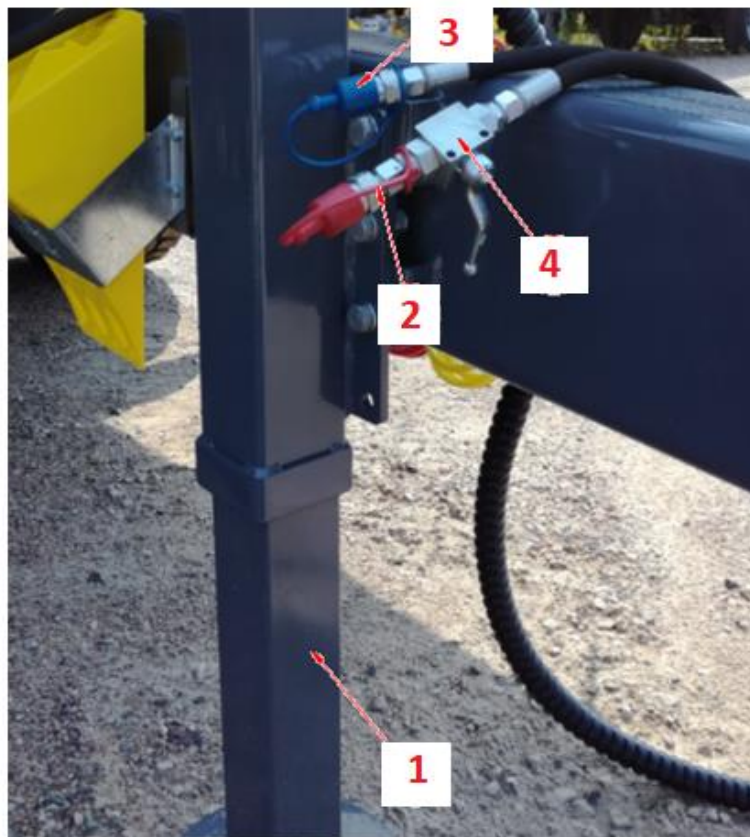

Figure 3. Hydraulic foot. 1- foot, 2 - supply line, 3 - oil return line, 4 - shut-off valve
The trailer is equipped with a hydraulic support foot. When coupling the trailer, connect the supply line (pos. 2 in Fig. 3) and the return line (pos. 3) to the tractor's external hydraulic system.